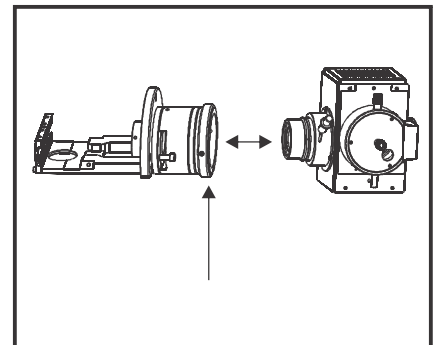

Fig. 3
2. Join the Optical assembly and illumination assembly to complete the FL attachment. Secure both parts by the allen screws (1) provided. Refer Fig. 3.